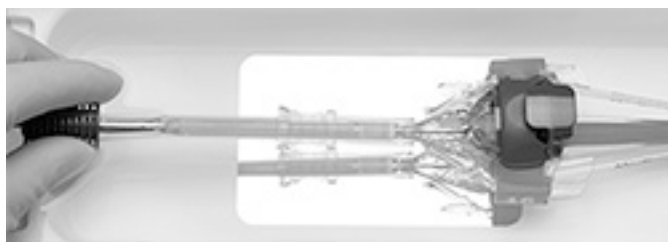

Figure 21
13. Advance the capsule to cover the bioprosthesis frame paddles (Figure 21), pausing when the capsule covers the proximal half of the paddles to confirm the paddles are both still properly seated before advancing further.